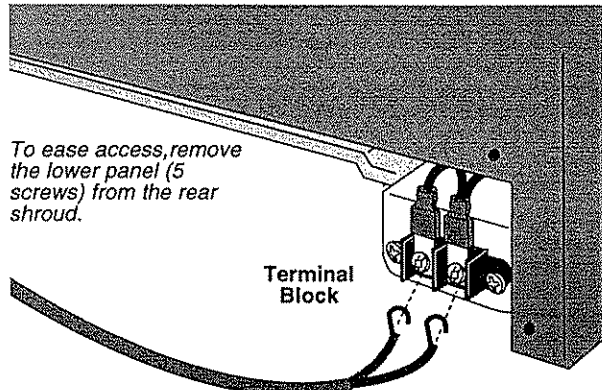

Figure 23. 500 Millivolt Thermostat Connection.
8. Connect the wall thermostat leads to the double terminal block at the lower left corner of the firebox base. Fig. 23. Either wire may be connected to either terminal. Note in the table below the appropriate gauge wire to use for the length of lead needed. Use only a 500 millivolt thermostat.